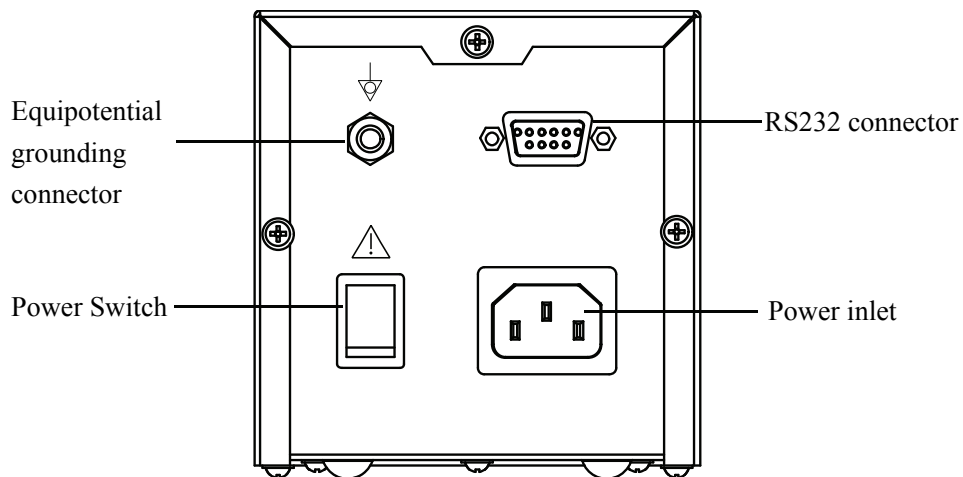

Figure 11-4 Front Panel
2. Insert a new roll of recorder paper into the paper compartment, shown in Figure 11-4.